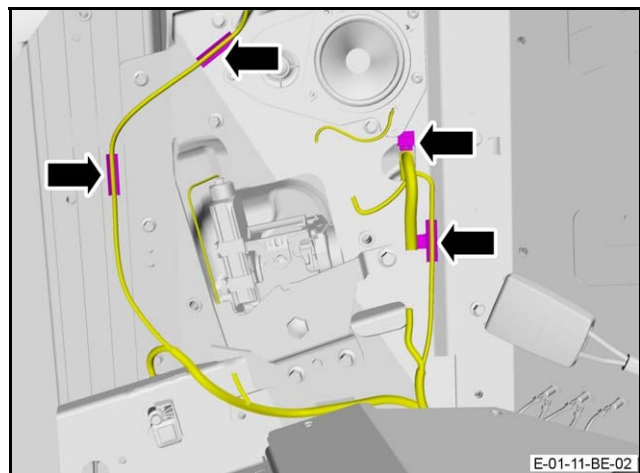

Figure 3
10. Release the wiring harnesses from the four clips (Refer to Figure 3).